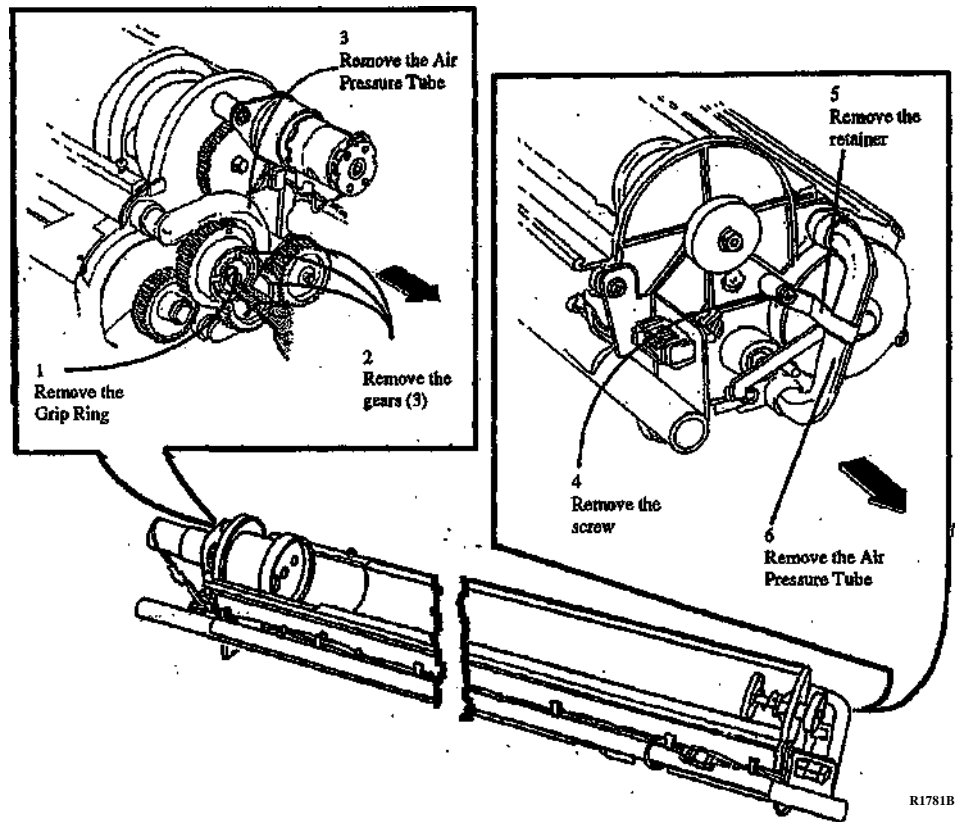

Figure 3. Removing the Air Pressure Tubes
5. (Figure 3): Remove the Air Pressure Tubes.